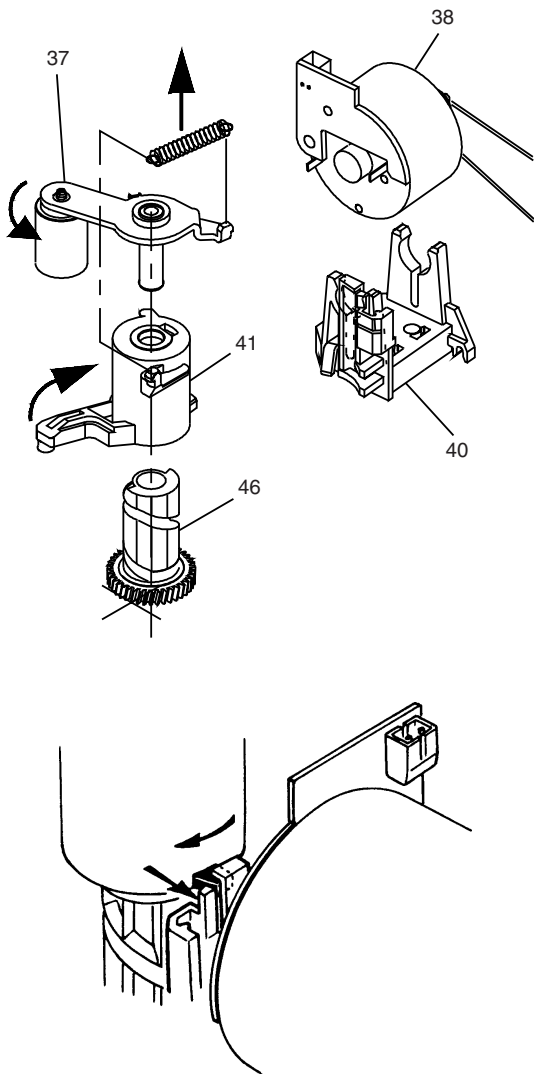

Figure 10-7
Release the pressure roller guide (pos. 41) from the guide in the threading motor holder by pressing the top of the motor guide rearwards and rotating the pressure roller guide assembly clockwise by approximately a quarter of a turn (see figure 10-7). The pressure roller and guide can now be lifted clear.